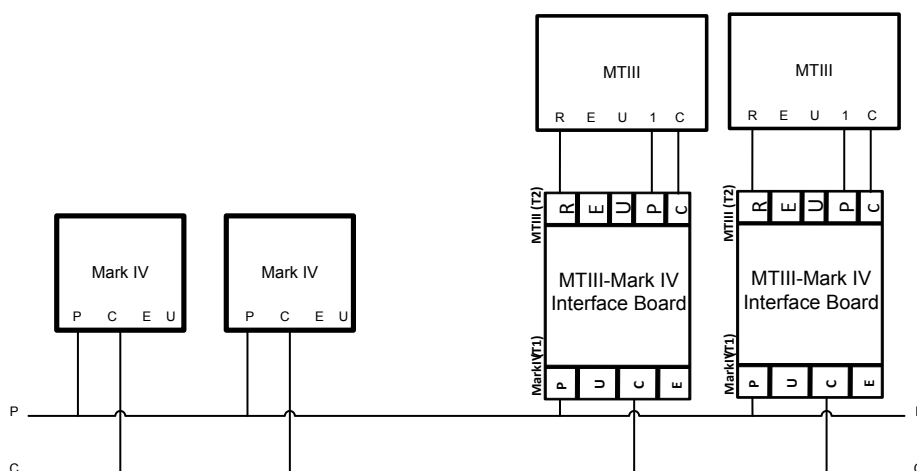

Figure 3 MTIII–Mark IV Interface Board Pump Request Wiring
- The H8 pin 1 of the MTIII WSHP board is connected to T2 pin P of the MTIII-Mark IV Interface Board. For Pump Request only wiring, see installation wiring diagram Fig 3.